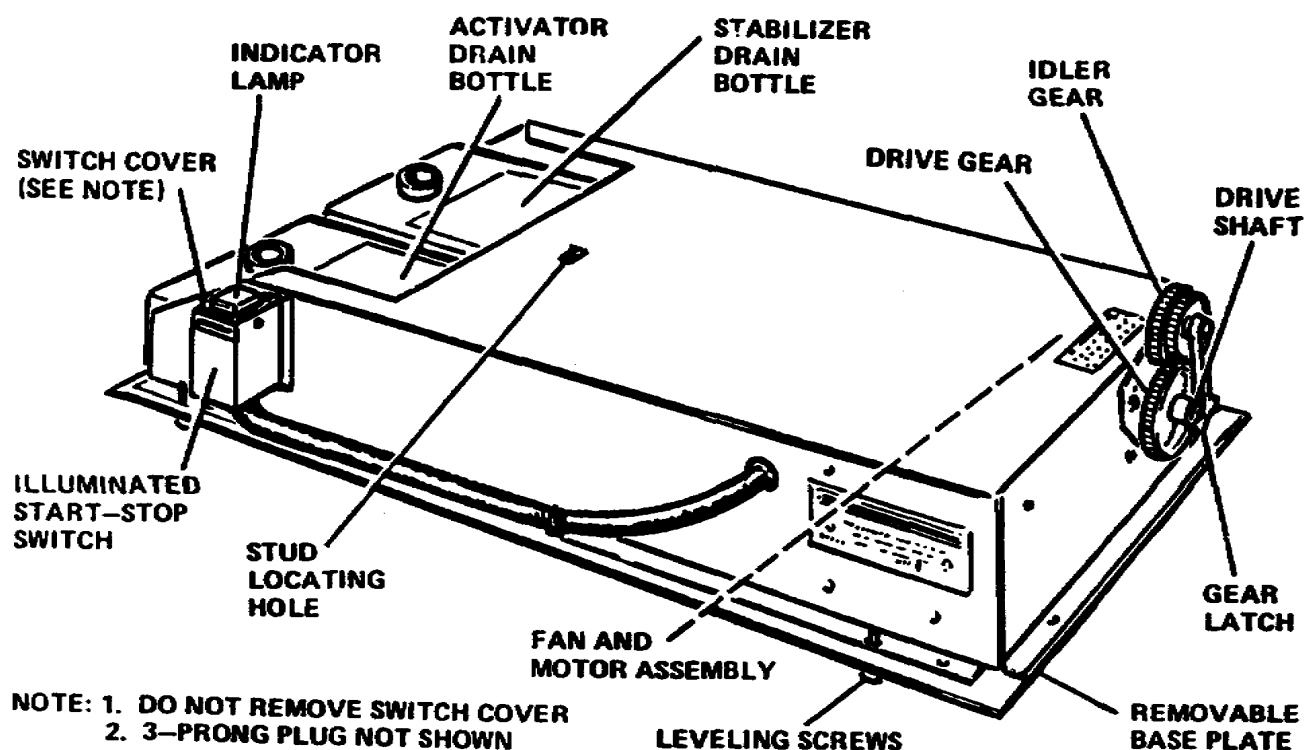

Figure 1-13. Processor base
(1) Be certain that the two drain bottles are inserted into the base of the processor as shown in Figure 1-13. Using the tray location hole, place the solution tray on the processor base. Insert the ends of the drain bellows into the drain bottles.